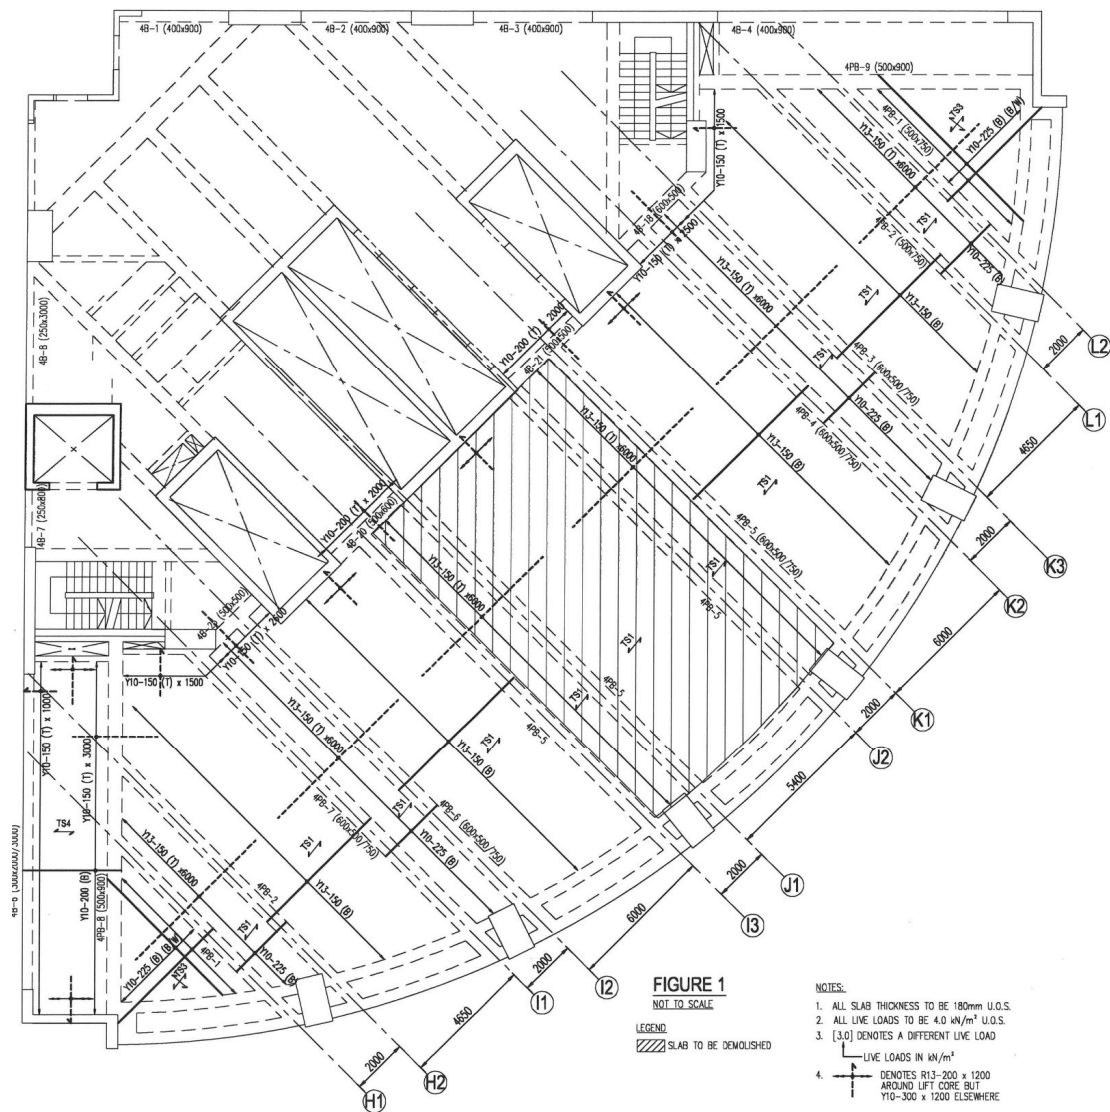

Figure Q1-1
- (a) You are engaged by your client to do a feasibility study on additions and alterations (A&A) to an existing office tower. Part of the A&A consists of slab demolition as shown in Figure Q1-1.